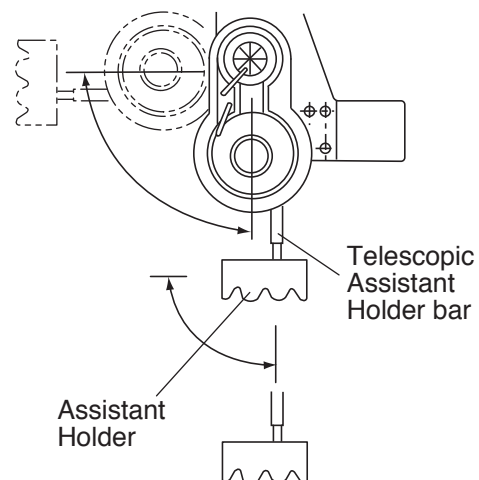

Fig.3-10 Cuspidor Unit
4. CUSPIDOR BODY ROTATION & TELESCOPIC ASSISTANT HOLDER BAR (Fig.3-10)
5. ASSISTANT INSTRUMENT HOLDER (Fig.3-10)